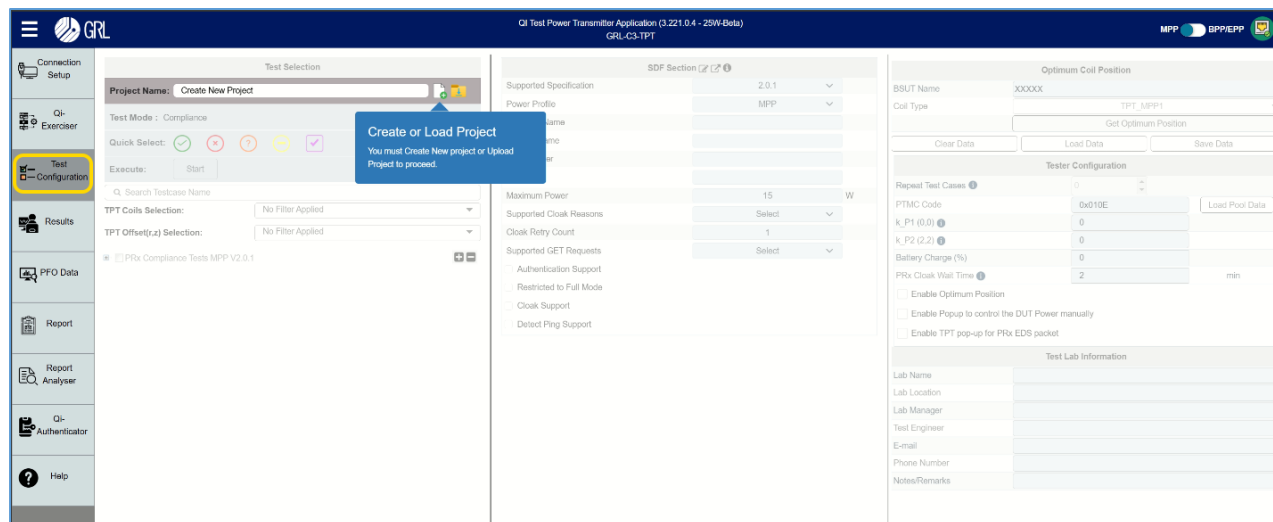

FIGURE 2.2: TEST CONFIGURATION SCREEN
3. Click on the **Test Configuration** tab on the left-side bar of the application as shown in Figure 2.2 below.